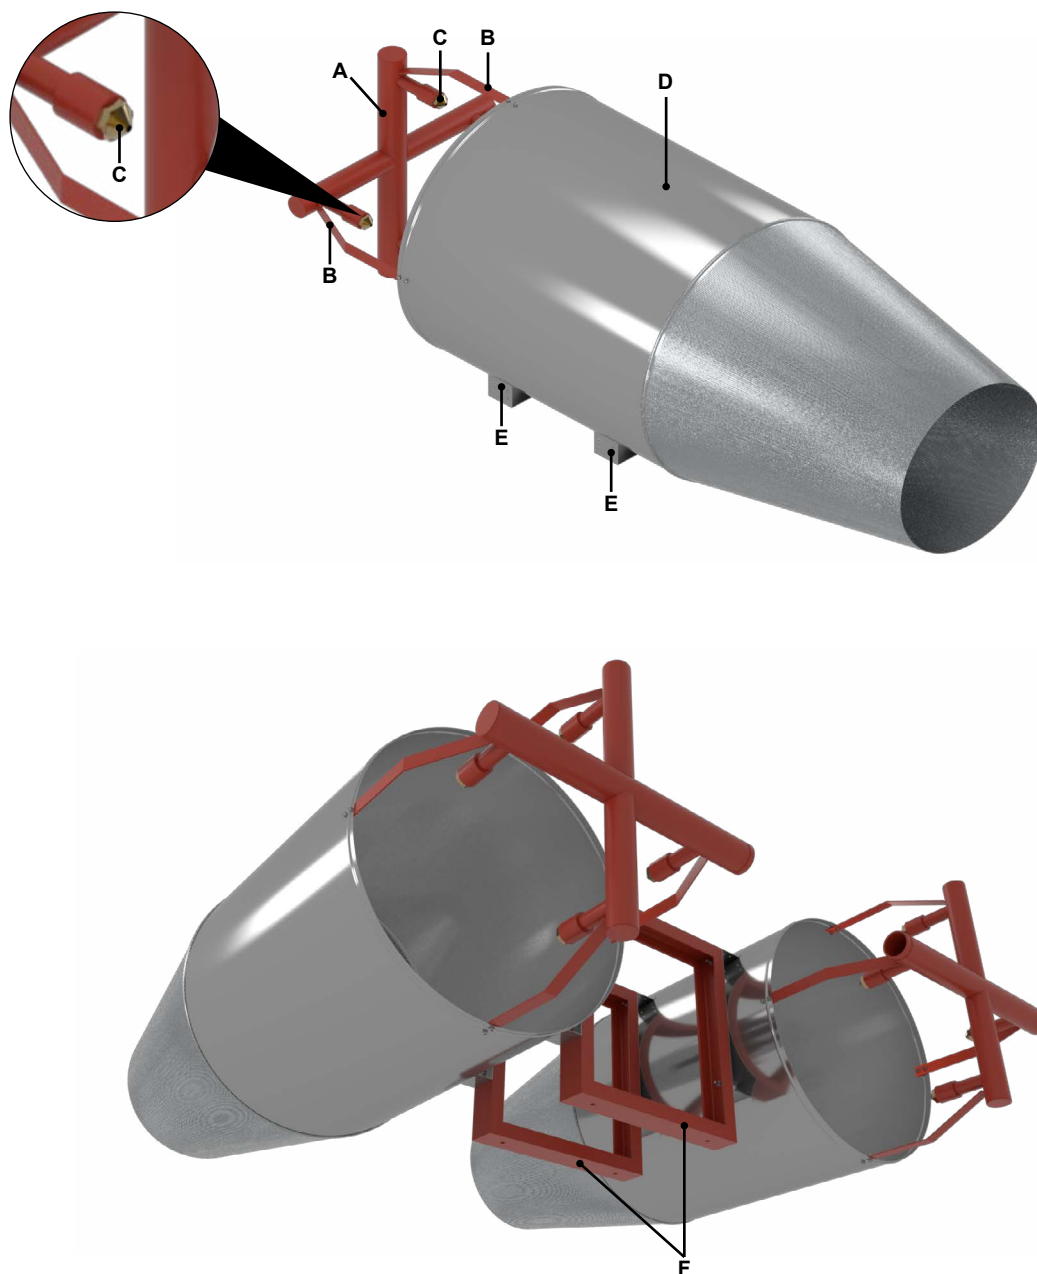

Figure 3.2.1 - Component Identification
3.2 Material Specifications (Refer to Figure 3.2.1)